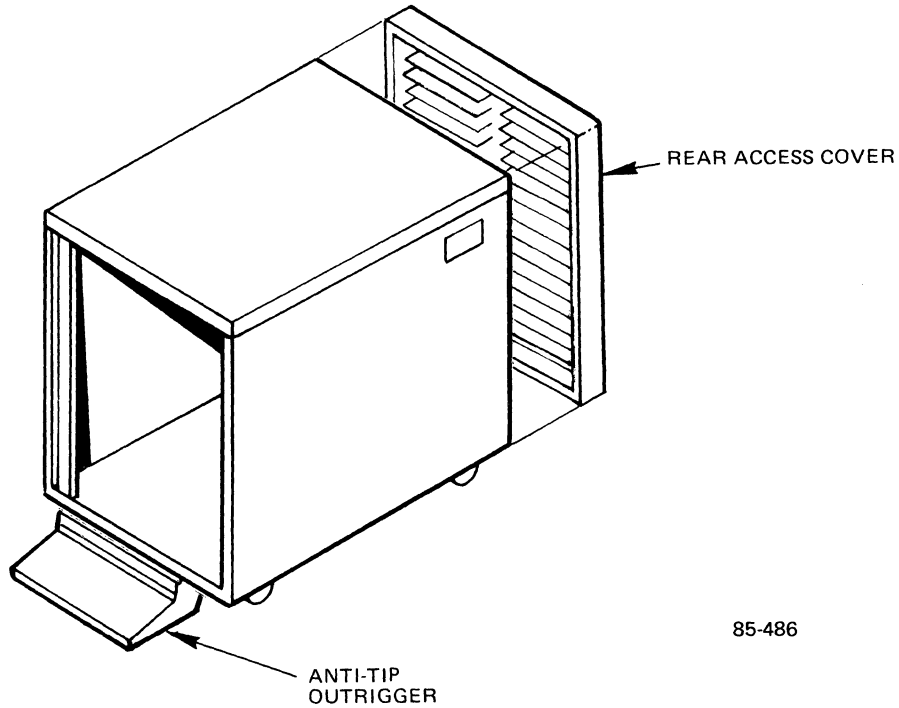

Figure 2-9. Removing the Rear Access Cover
5. At the rear of the cabinet, lift up and remove the rear access cover (see Figure 2-9).